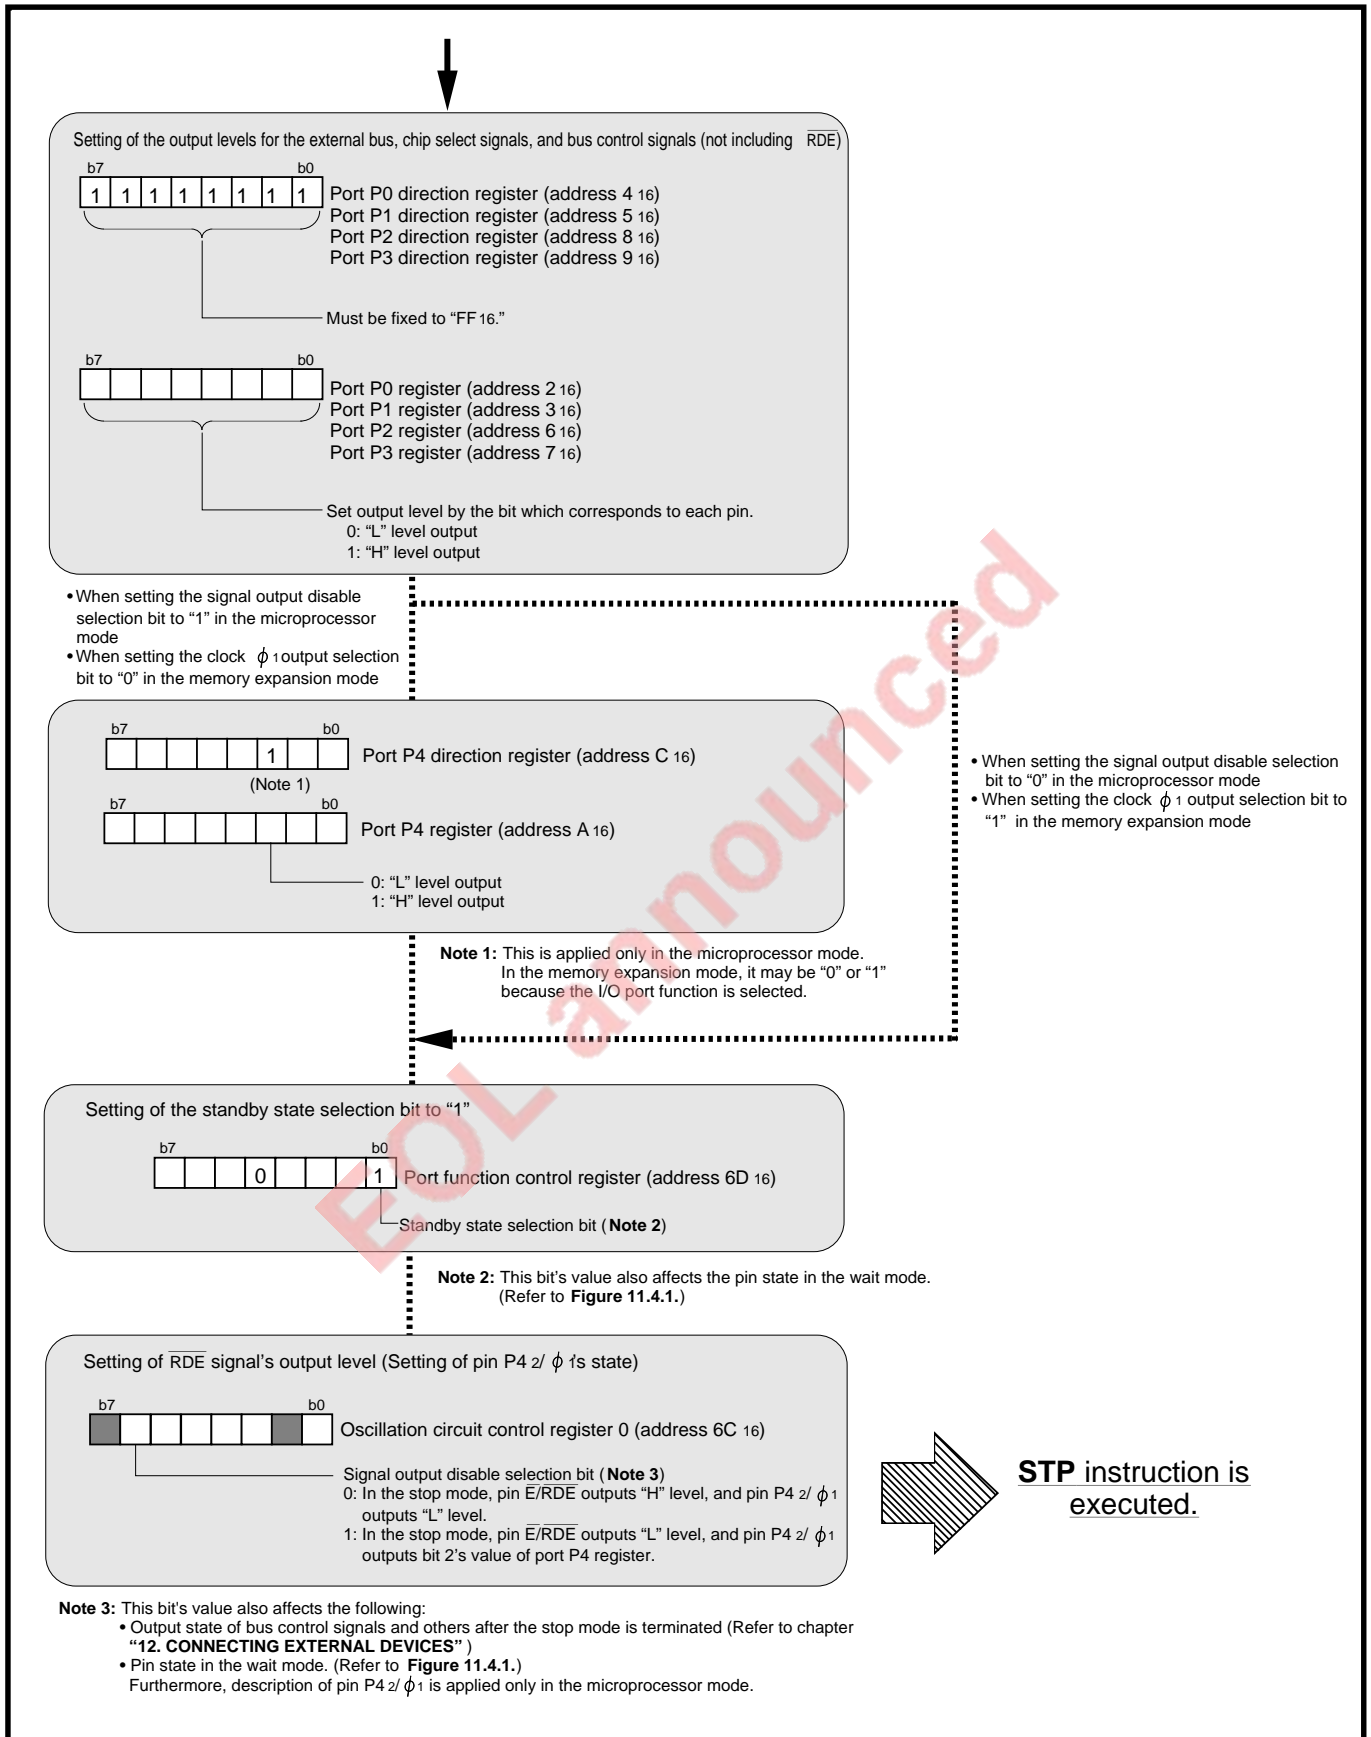

Fig. 11.3.1 Output level setting example in stop mode (Memory expansion or Microprocessor mode)
- Table 11.3.2 and Figure 11.3.1
Standby state selection bit\*1: Bit 0 at address 6D16 (Refer to **Figure 11.3.1**.)